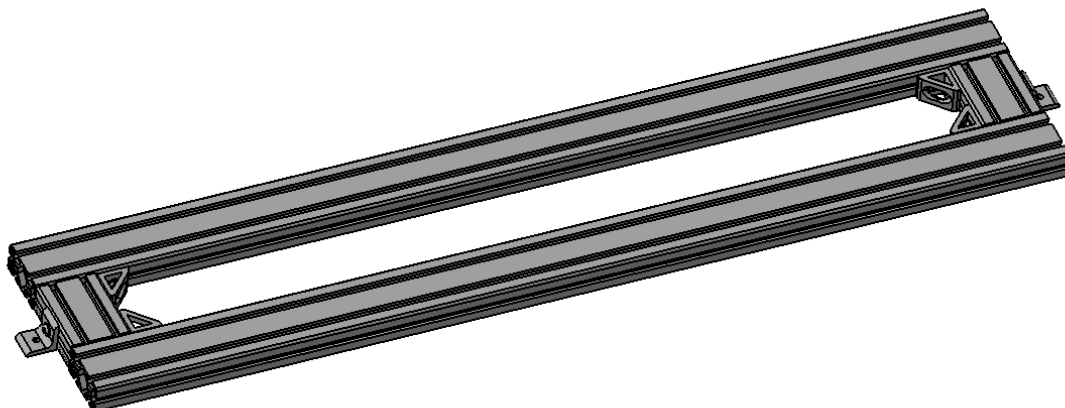

Fig. 4.7: Attaching T-slotted frame 4' (#VYTV) to T-slotted frame 4" (#WHXZ)
- ❑ Attach the assemblies from the last step at each end of the two T-slotted double beams 4' (#VYTV), connect and close the structure with button head 5/16"-18 screws (#KEDB) and T-nuts (#YREC), as shown in Fig. 4.7.
- ❑ Apply fasteners and T-nuts on only one side of the L-brackets, as shown in Fig. 4.7, because you may need the free end to attach the ground structure to the flooring.